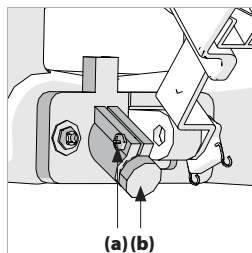

Fig. 6
- Untighten the clamping screw (**Fig. 6, a**)
- Carefully rotate the laser module, (**Fig. 6, b**) until the line is parallel with the marks in the cardboard.